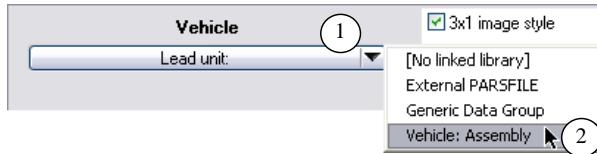

Figure 30. Select the **Vehicle: Assembly** library.
5. Use the drop-down vehicle library control ① to select the vehicle assembly library ② (Figure 30).